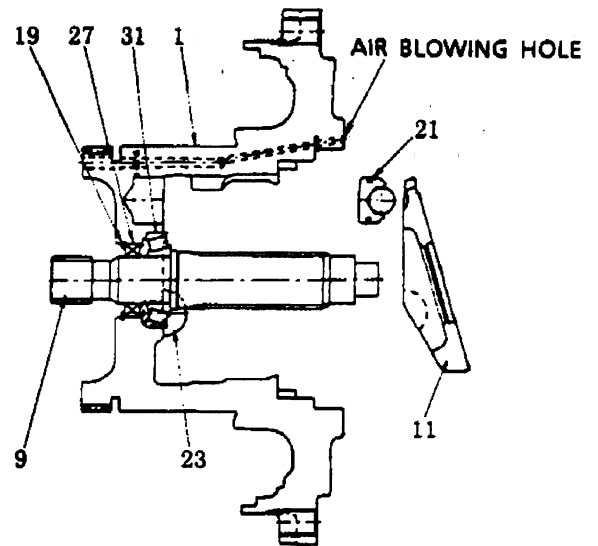

Fig. 13 Removing swash plate
- 12) Remove swash plate (11).
- 13) Do not remove tilting piston (21). In case it must be removed for unavoidable reason, hold down tilting piston (21) by hand, and push it out by blowing air through the hole in the Fig. 13.
- 14) Shaft (9) comes off.
- 15) Remove snap ring (19) and take off oil seal (27).
- ▲ Shim (34) is located under the outer race of rear bearing (32). At installation, use care so as to place it as it is.
- When bearings (31,32), shaft (9), casing (1), rear cover (2) and the like that are related to the tightening allowance of the bearings have been replaced, the thickness of shims (34) must be adjusted. Measure the total thickness of the shims when they are placed lightly and replace them with a single shim of the same thickness so the clearance of the bearing keeps within 0~0.1mm (0~0.004in).
- Do not remove pivot (23). In case it must be removed for some reason, put a matching mark on the pivot and on swash plate (11).
- Do not remove oil seal (27) for inspection. In case it is removed, replace it with a new one.